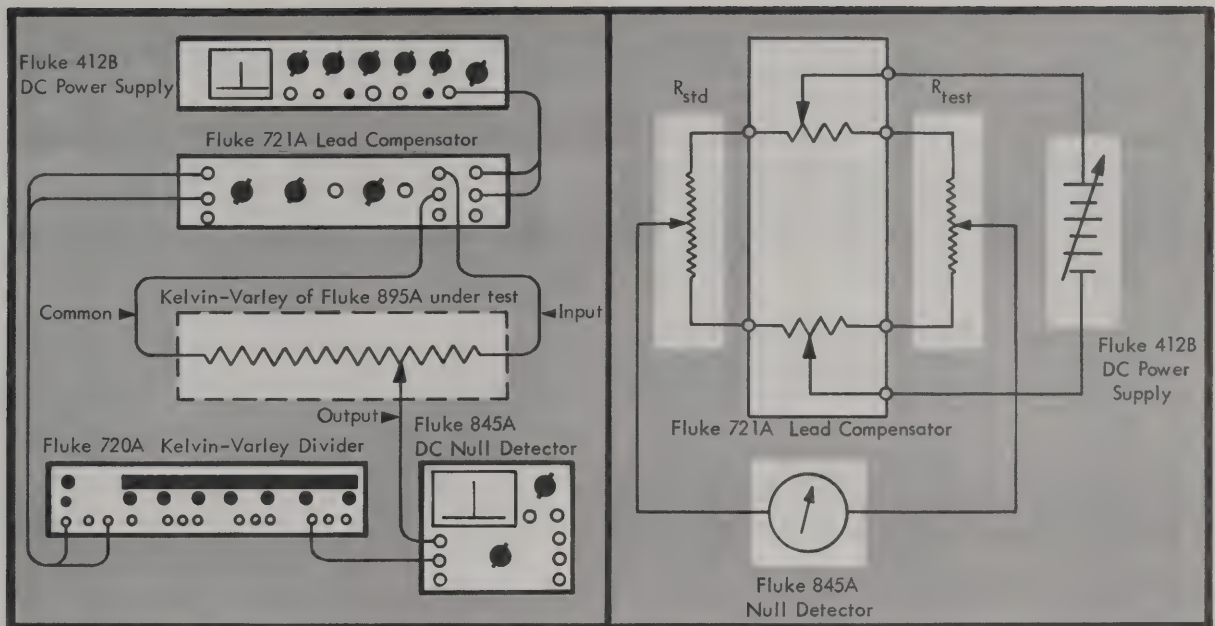

Figure 4-6. KELVIN-VARLEY DIVIDER TEST
- Connect the equipment as shown in Figure 4-6.